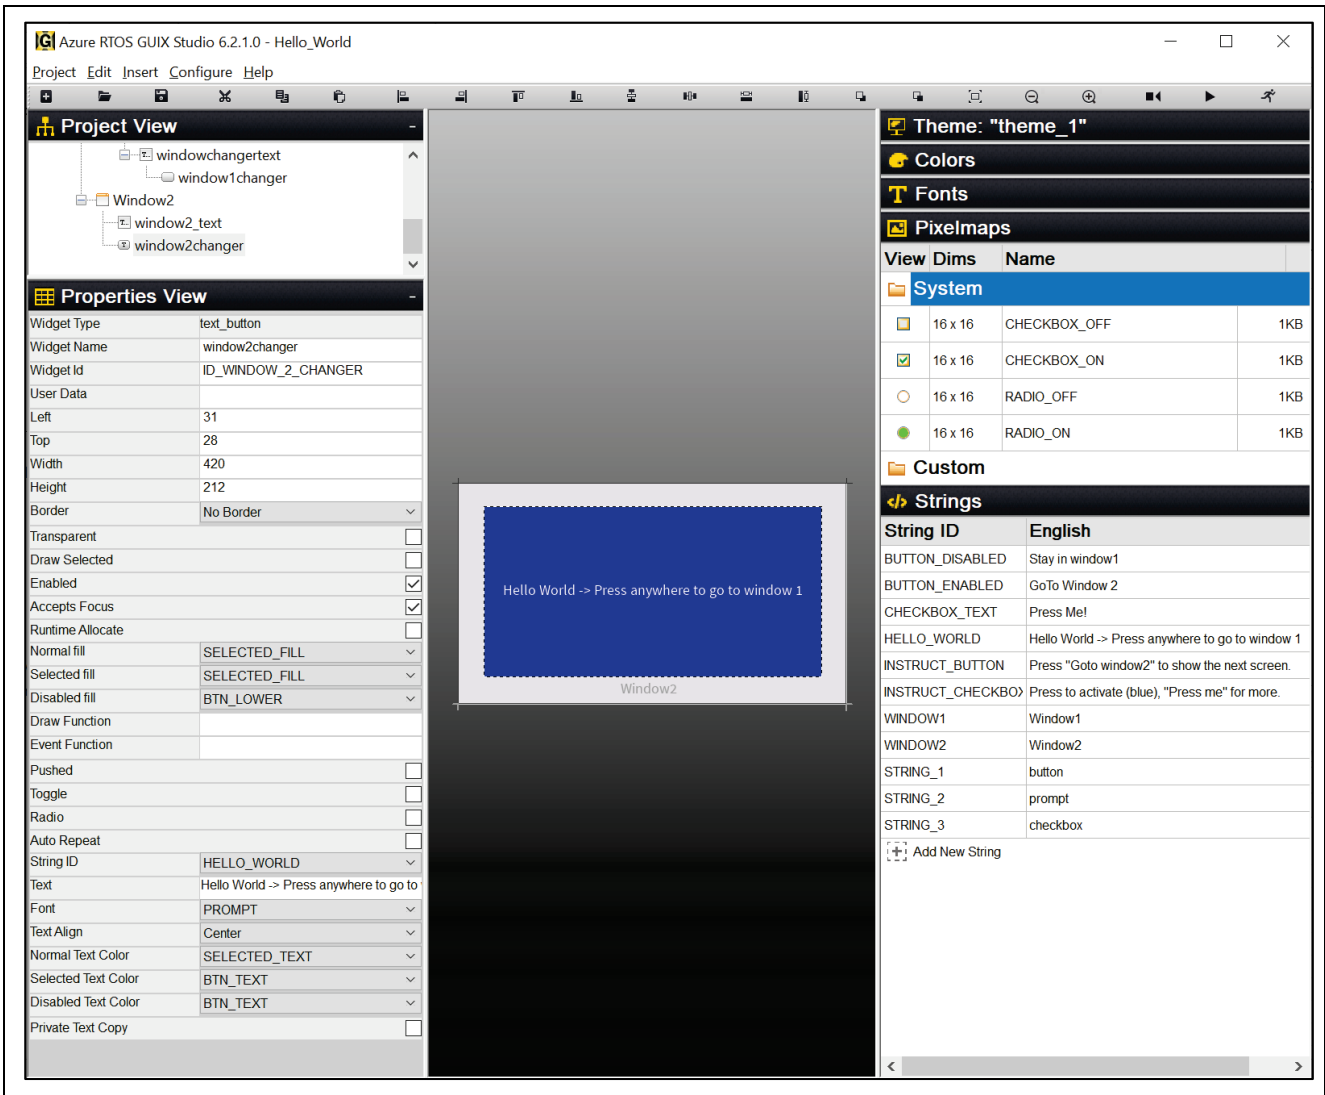

Figure 67. Window2
29. After Insert and configuration. Window2 looks like **Figure 67**.